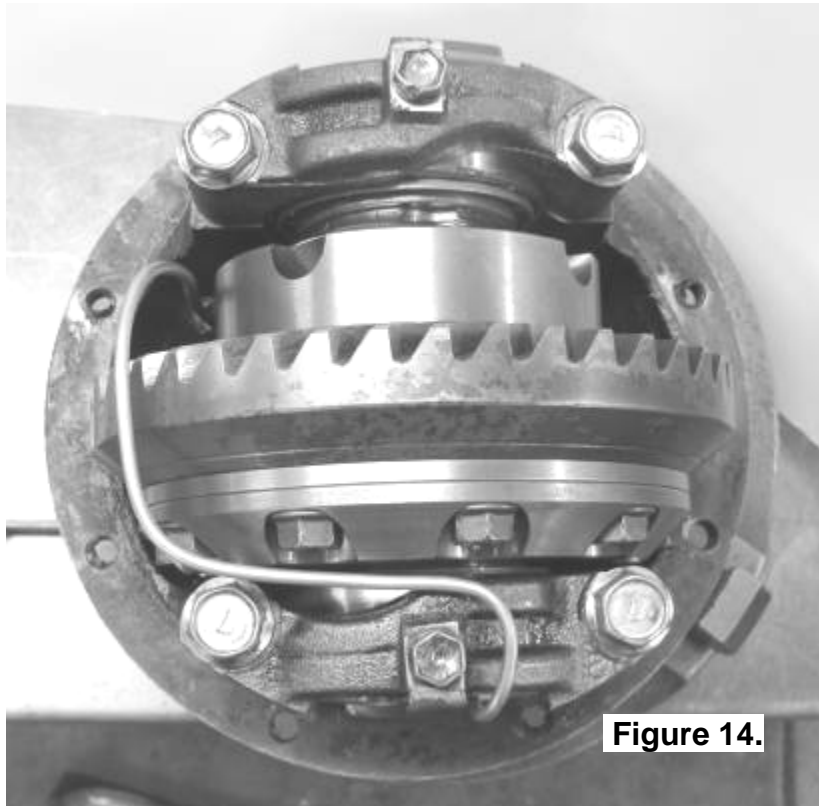

Figure 14.
- ☐ With the seal housing tube now firmly secured into the bulkhead fitting, bend the tube so that it closely follows the profile of the differential. (Figs.14., 15. & 16.)